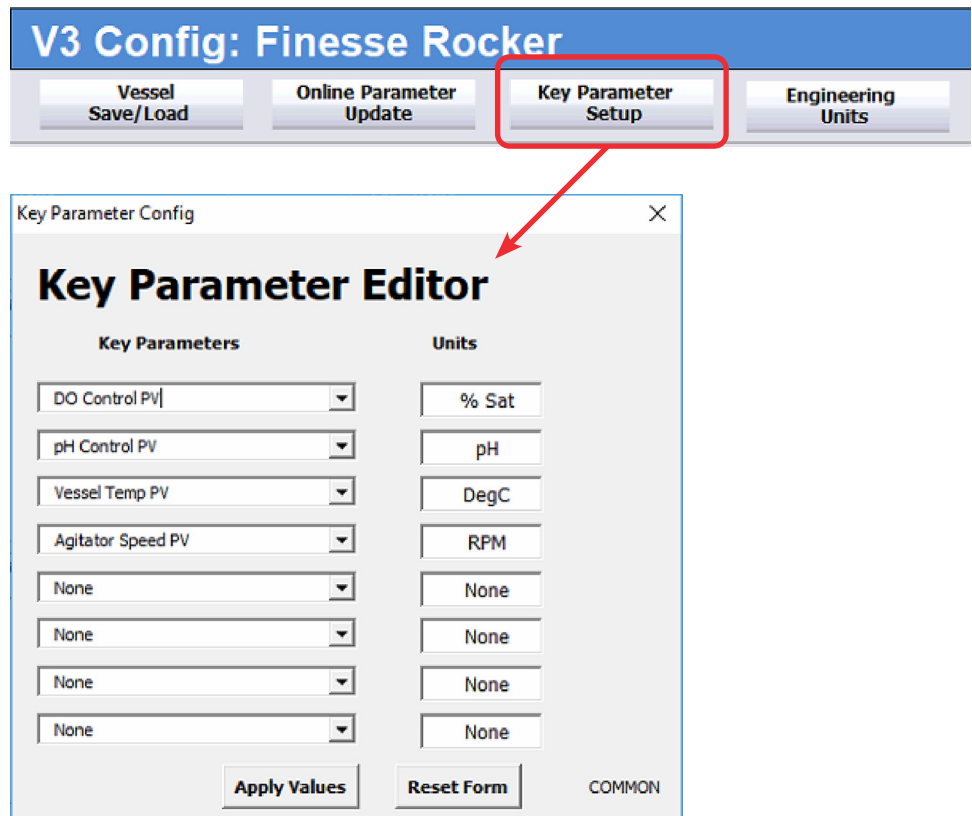

Figure 2.45. Key Parameter Editor screen.
1. On the **Configuration** screen, click **Key Parameter Setup** to select parameters to be displayed using the drop-down menus (Figure 2.45).